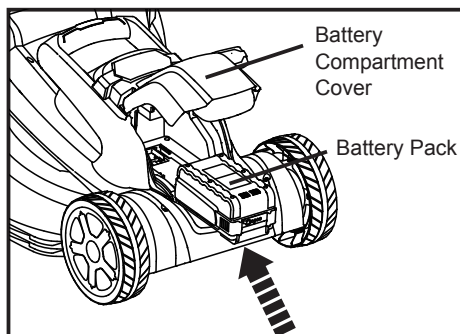

Fig. 10
3. Align the raised ribs on the mower with the grooves in the battery pack, and then insert the battery pack into the compartment (Fig. 10).